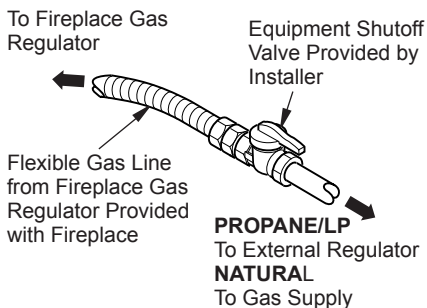

Figure 24 - Attaching Flexible Gas Line to Equipment Shutoff Valve
4. Apply pipe joint sealant lightly to male threads of gas connector attached to flexible gas line/equipment shutoff valve (see Figure 24, page 18).